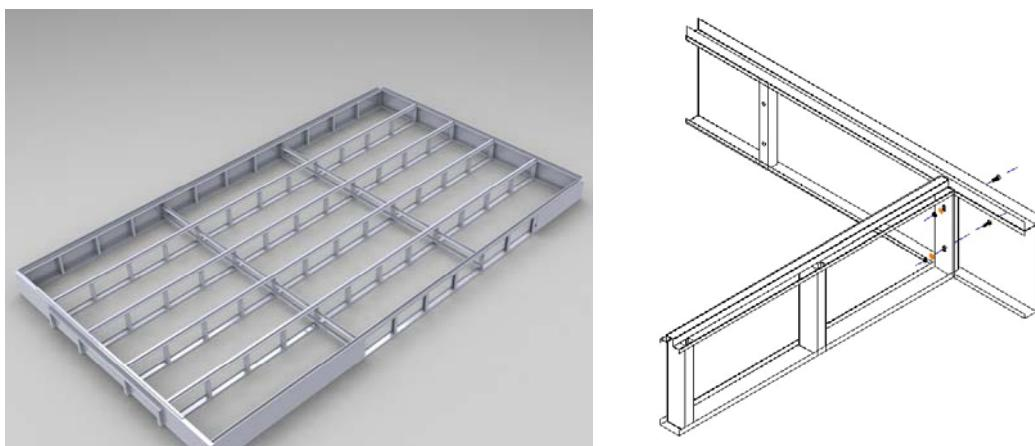

Fig. 3.4
1. Put the metal board(front,back,sides)and middle bracket in the right place, and connect them with bolt M8\*20 according to the demand of the installation chart.then screw down. Shown in Fig.3.4.